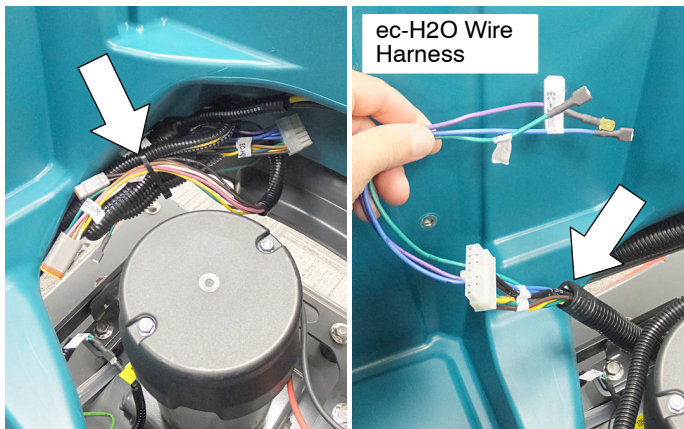

Fig. 2
1. Locate the factory installed ec-H2O wire harness wire-tied to the machine's main wire harness (Figure 2). Cut the wire-tie and remove the ec-H2O harness as shown.